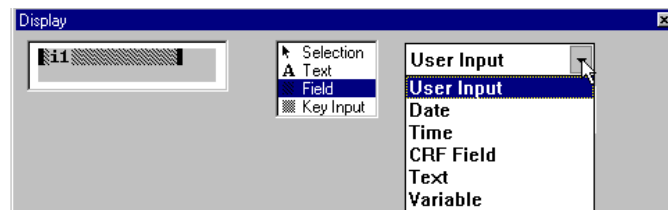

Figure 2-52 Display - Field Pop-up Menu
6. To change the type of data the field object displays, click the pop-up menu indicator next to **User Input**, to display the **Field** pop-up menu (Figure 2-52).